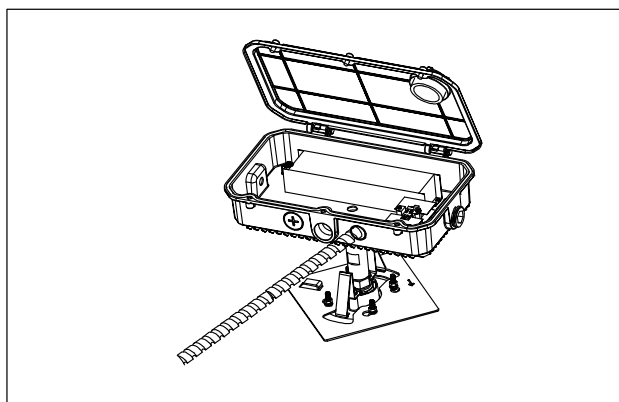

Figure 11
- Feed the electrical cable through the drilled entry hole and secure it to the driver box using a waterproof connector (provided by others). Make all electrical connections as specified in the wiring diagram. Close the driver box and secure it by tightening the three M5 screws (Figure 11).